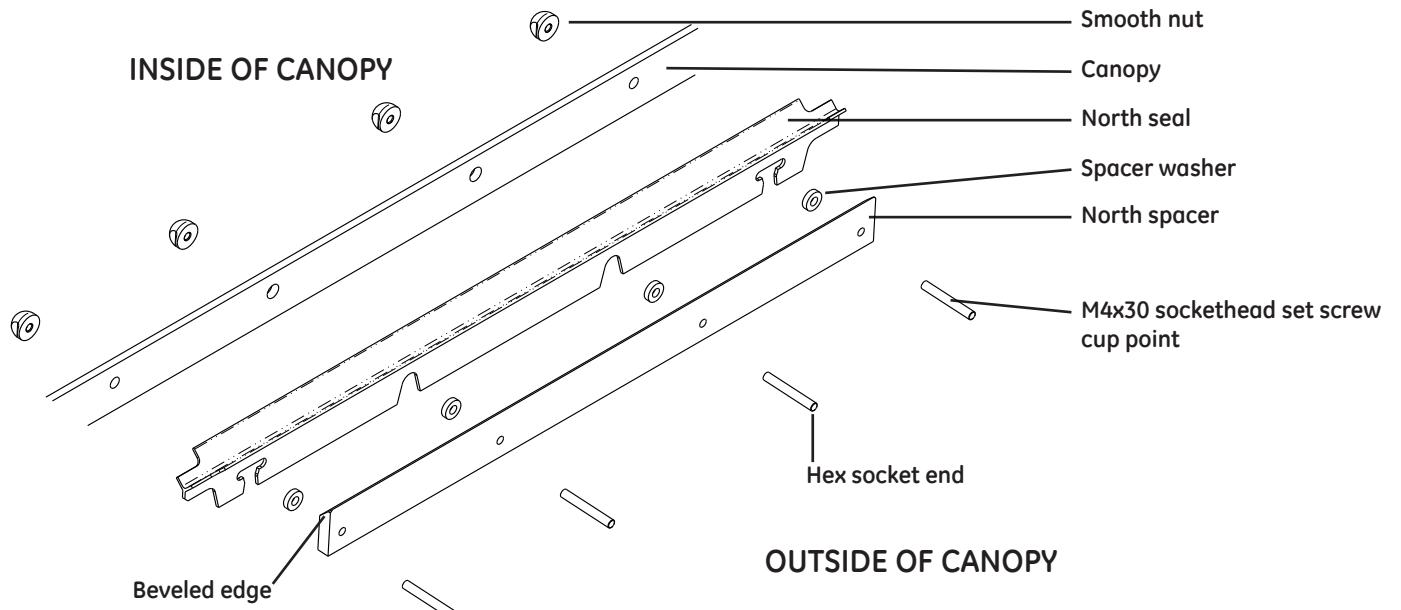

Figure 5-13 North Seal Parts
- Orient the north spacer with the beveled side toward the canopy edge, as shown in Figure 5-13 and Figure 5-14.
- e. If your canopy has six holes across the north end, install parts for the middle four holes as shown in Figure 5-13 and install parts for the remaining two holes as shown in Figure 5-15. The parts for these two holes serve to fill these two holes.